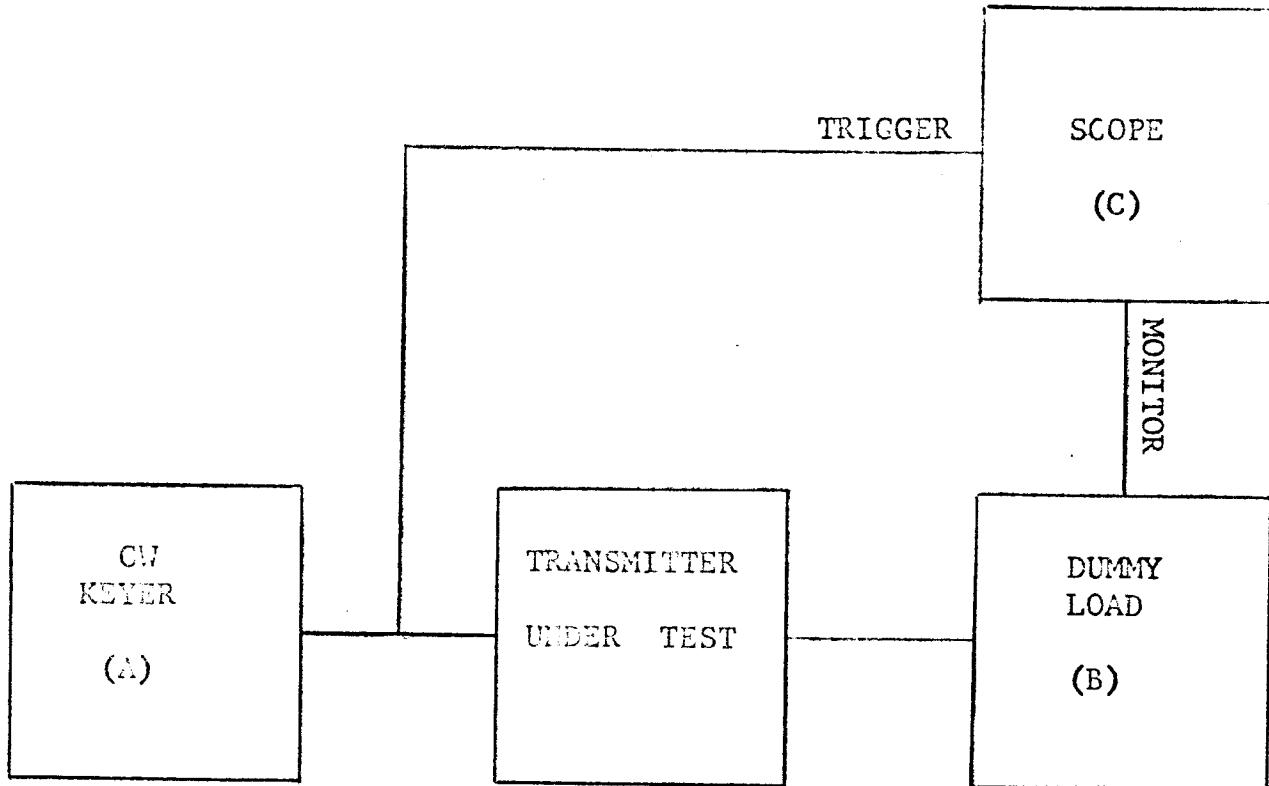

FIGURE 2.7
- Connect equipment as shown in Figure 2.7.